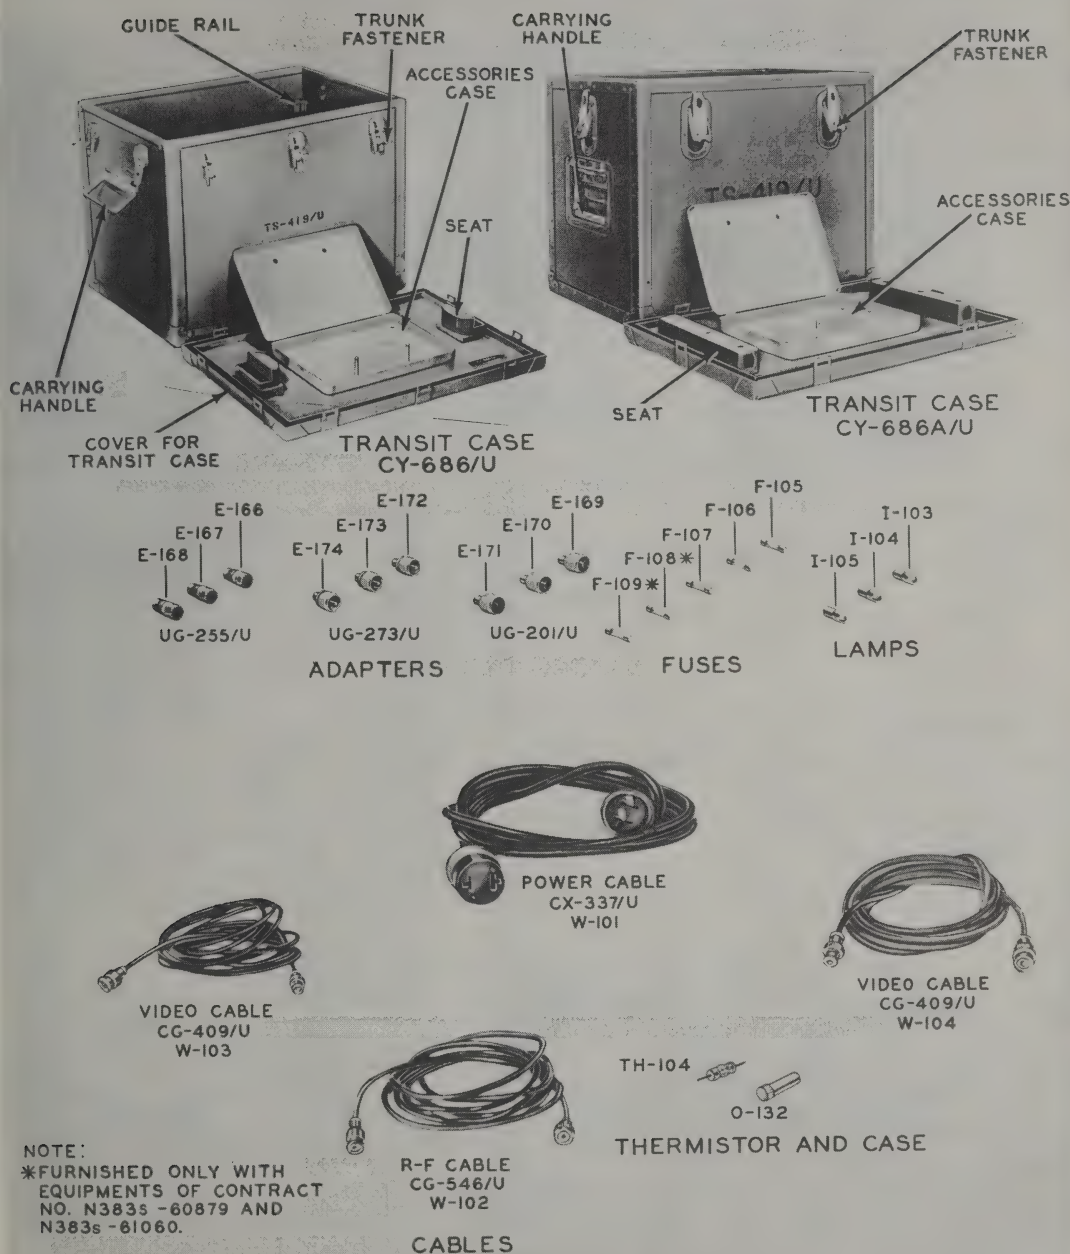

Figure 1-3. Transit Case CY-686/U and CY-686A/U, and Accessories
b. **ACCESSORIES.** (See figures 1-3 and 1-4.)